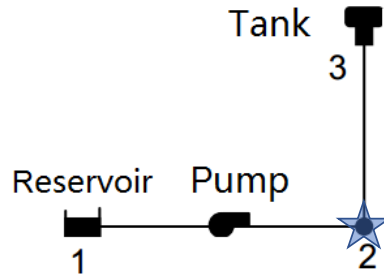

Figure 3: A simplified three-node water distribution network (the blue star is a booster station).
The same simplified three-node network is shown in Fig. 3. Necessary parameters for this quality dynamic simulation are as below.
- The flow rate of the booster station in Fig. 3 is 10 GPM, and the corresponding chlorine rate is 5 mg/L.